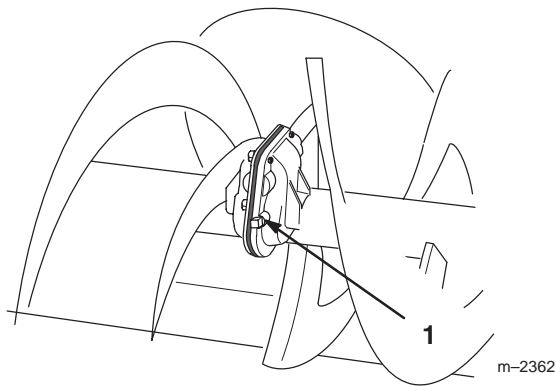

Figure 41
2. Clean area around plug with a rag and remove plug (Fig. 41).
3. Add SAE 90 gear oil until level with bottom of hole in housing (Fig. 41).